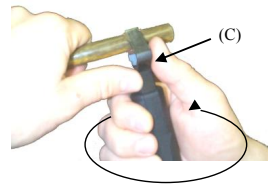

Fig. 4
Step 4. (Fig. 4) **For a longitudinal cut,** twist the tool handle 1/4 turn to the right and pull toward the end of cable.